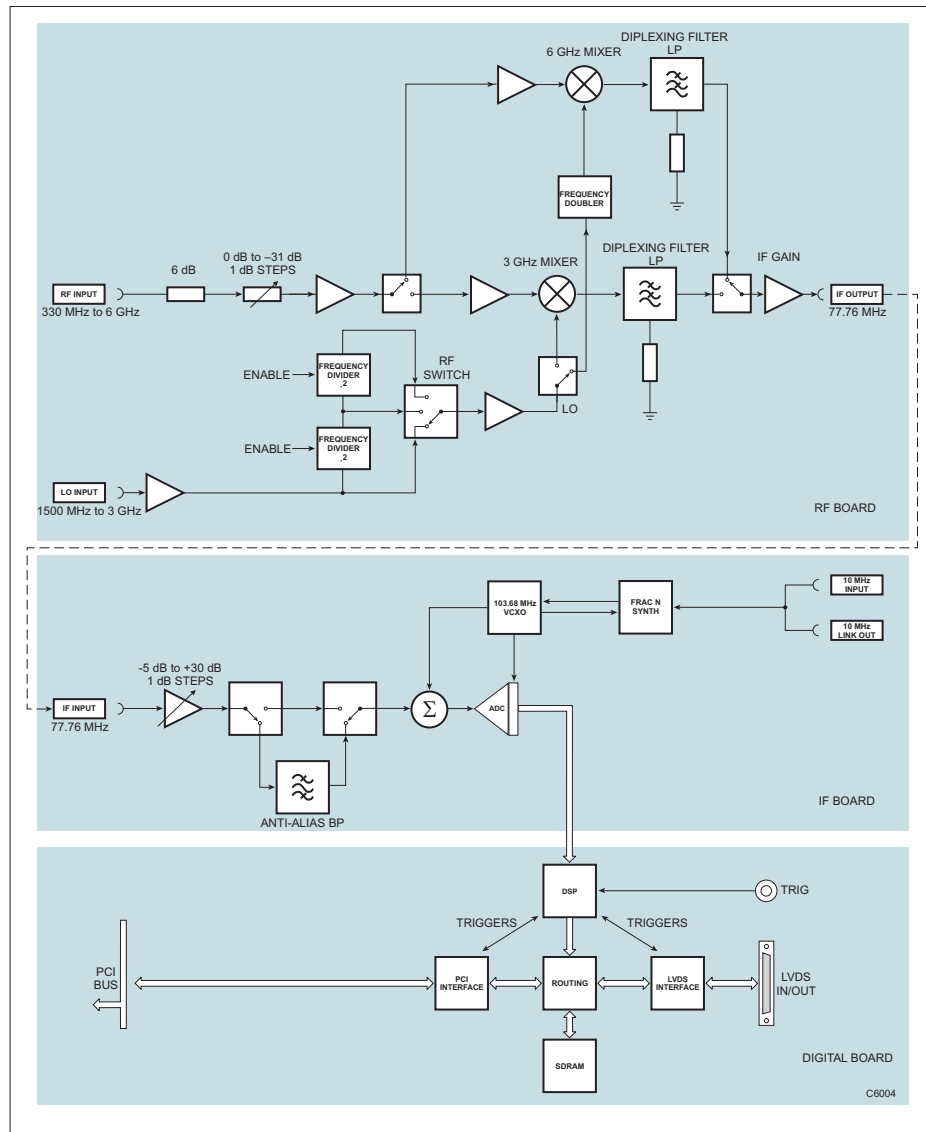

Fig. 4-1 Block schematic diagram
The module is a three-board design occupying two slots in the backplane. The first board is a single stage RF downconverter to IF, with an input attenuator and output gain. It must be used with an external local oscillator (LO) from a 3010 Series RF Synthesizer module or other RF source. The IF output is normally linked externally to the second board, which digitizes the input IF signal. It has switchable input gain, an anti-alias filter with bypass and a clock source. It outputs data to the third board, which provides all of the digital services required by the module, including the power supply, PXI interface, LVDS interface, memory and digital signal processing. A block schematic for the instrument is shown in Fig. 4-1.